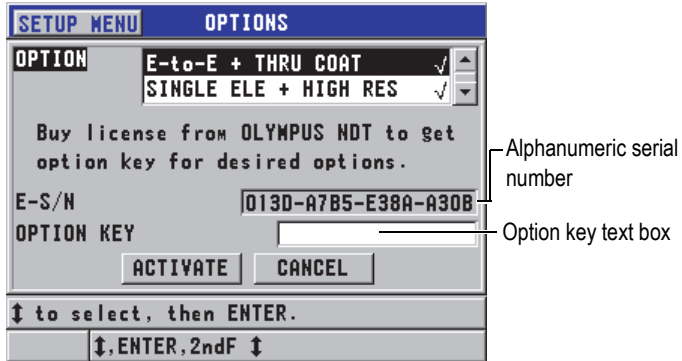

Figure 6-1 The **OPTIONS** screen
2. In the **SP MENU** (see Figure 4-2 on page 55), select **OPTIONS** (see Figure 6-1 on page 79), take note of the 16-digit alphanumeric serial number appearing in the **E-S/N** field.
4. In the **OPTIONS** screen (see Figure 6-1 on page 79):